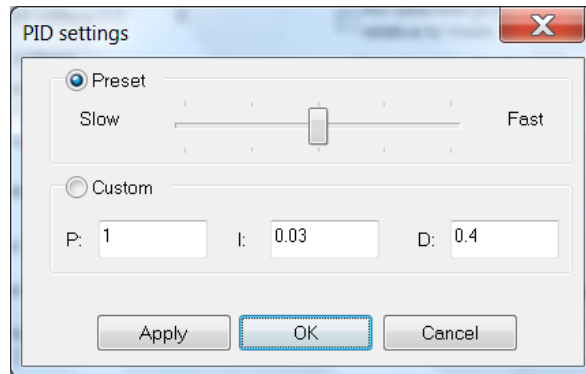

Figure 3.19 Adjusting regulator PID constants
**PID constants** – in case of PID regulator it is required to adjust P, I and D regulator constants. Clicking this field opens PID settings dialog box (Figure 3.19). Proportional, integral and differential constant can be set manually (option **Custom**) or by selecting one of predefined presets (option **Preset**).